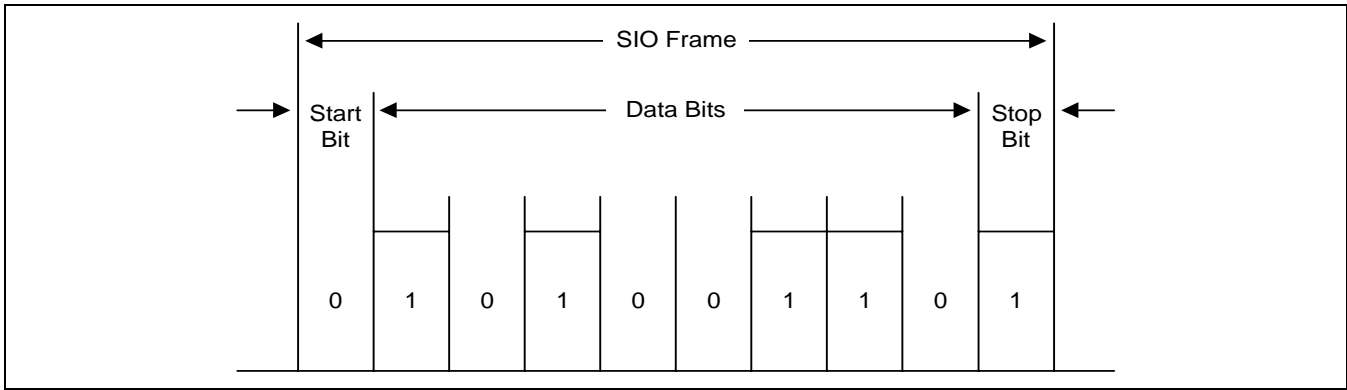

Figure 11-4. Serial I/O Frame Timing Diagram (Normal UART)
The SC32442B UART block supports infrared (IR) transmission and reception, which can be selected by setting the Infrared-mode bit in the UART line control register (ULCONn). Figure 11-4 illustrates how to implement the IR mode.